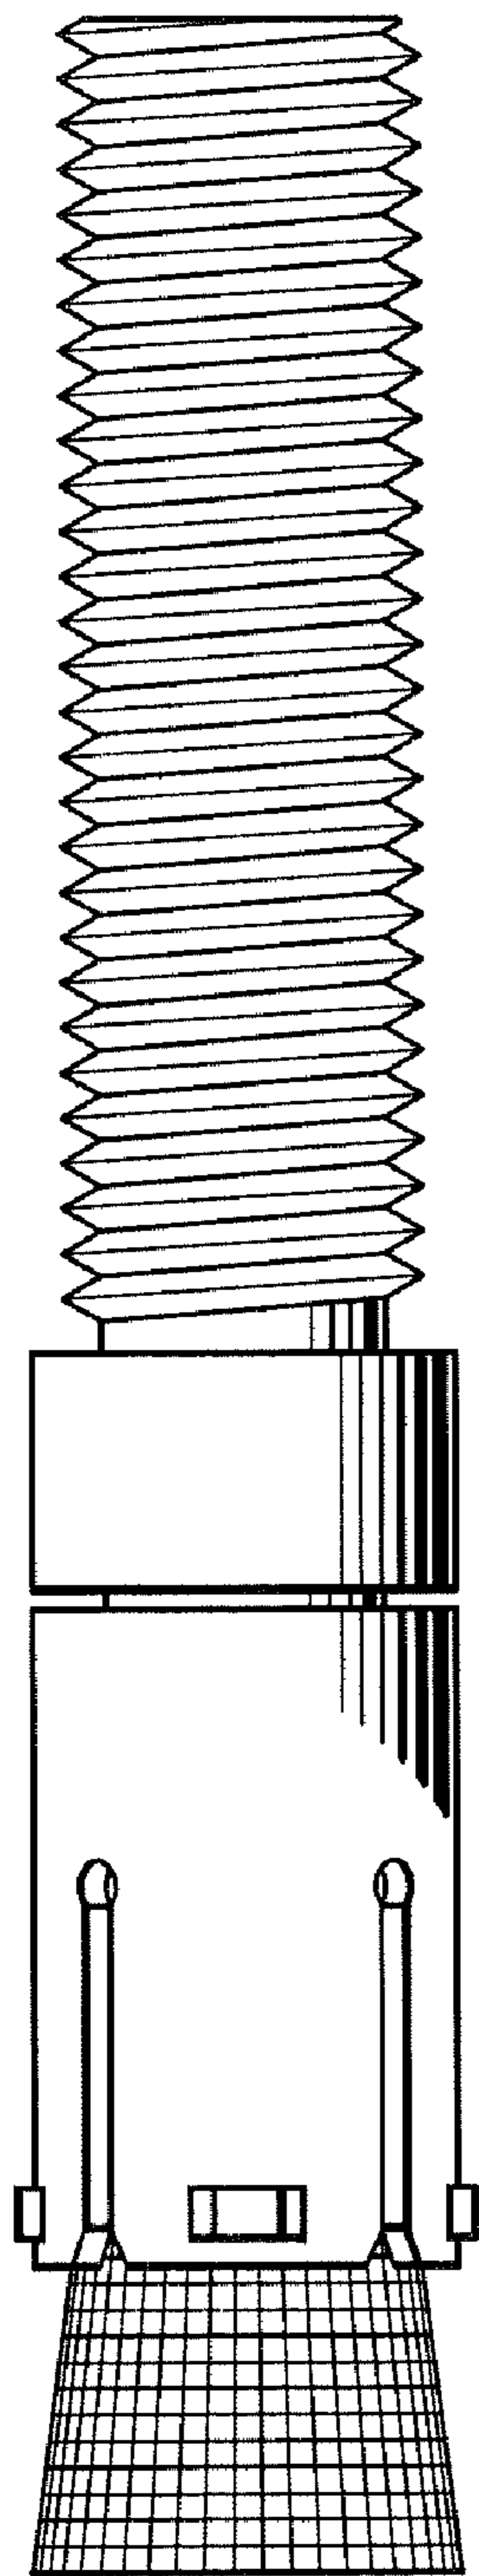

Fig. 7
- FIG. 7 is a front view of the stud having a cross knurled wedge;